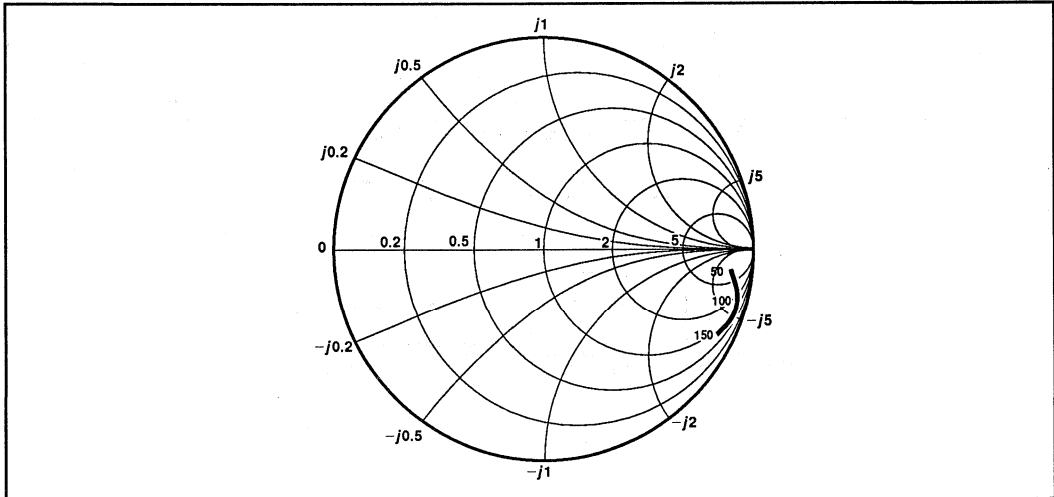

Fig. 4 Typical input impedance. Test conditions: supply voltage = 5.0V, ambient temperature = 25°C, frequencies in MHz, Impedances normalised to 50 Ω
5. Input impedance varies as a function of frequency; see Fig. 4.